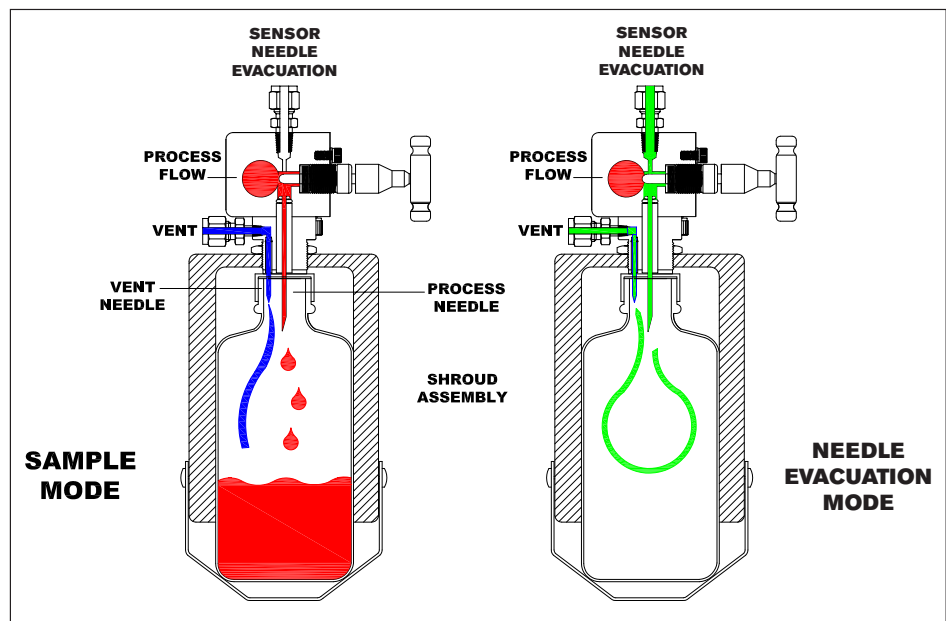

Figure 6 - Bottle, Cap & Septum System
**1. Process/Vent Needle Systems** with a bottle, cap and septum are used for the vast majority of chemical and hydrocarbon processing streams. They offer a cost-effective method for safely and reliably retrieving samples in most chemical and refining operations. An illustration of the sample and vent modes for these systems is shown below in **Figure 6**. Notice that the process stream flows through the valve body unimpeded by the sampling operation.